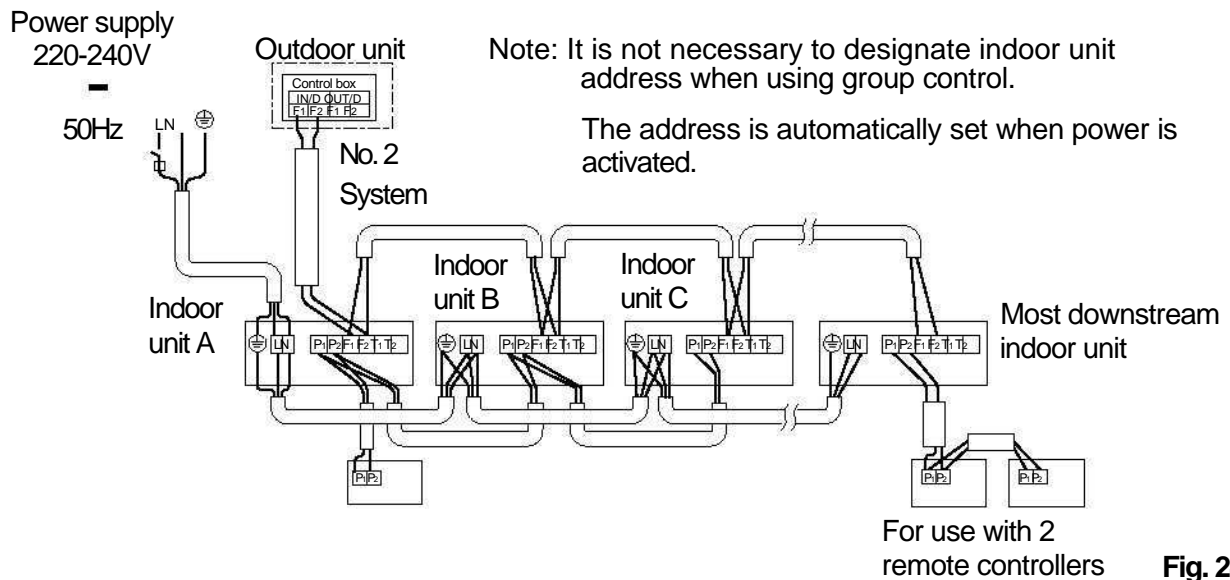

Fig. 24
(4) Add remote control 2 (slave) to the terminal block (6P) for remote controller (P₁, P₂) in the control box. (There is no polarity.) (Refer to Fig. 24 and section 7-3 for the wiring size.)